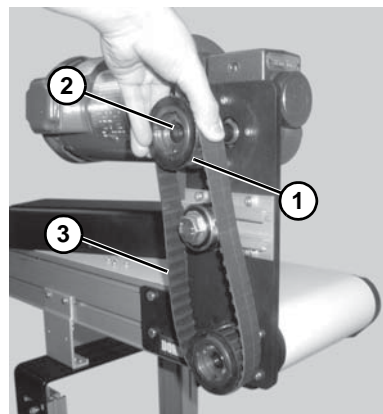

Figure 18
*If drive pulley (**Figure 18, item 1**) is replaced, wrap timing belt around drive pulley and complete step 3.*
4. Remove drive pulley (**Figure 18, item 1**), taper hub assembly (**Figure 18, item 2**), and timing belt (**Figure 18, item 3**).
Drive pulley (Figure 18, item 1) is removed. Wrap timing belt around drive pulley and complete step 15.